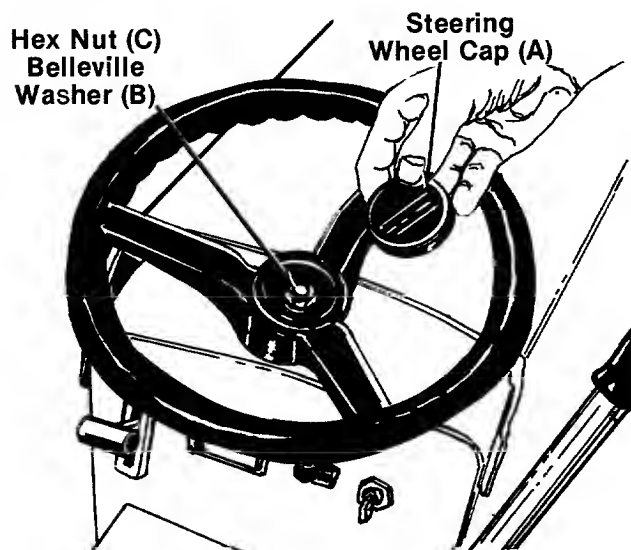

FIGURE 7.
2. Secure with belleville washer (B) (cupped side against the steering wheel) and hex nut (C). See figure 7.
3. Press the steering wheel cap (A) on the steering wheel by hand.